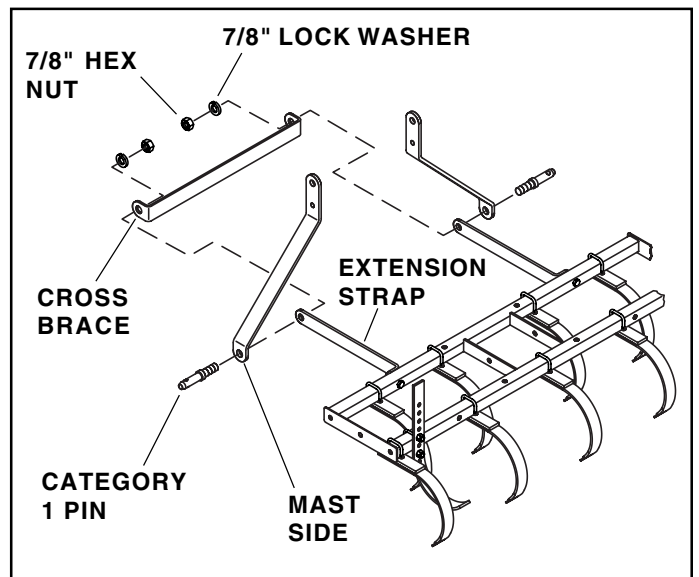

FIGURE 3
3. Attach the cross brace and the two mast sides to the ends of the mast extension straps. The cross brace is between the extension straps while the mast sides are on the outside. The cross brace and mast sides are connected to the extension straps using two category 1 pins, two 7/8" lock washers, and two 7/8" hex nuts. **Do not tighten yet.** See figure 3.